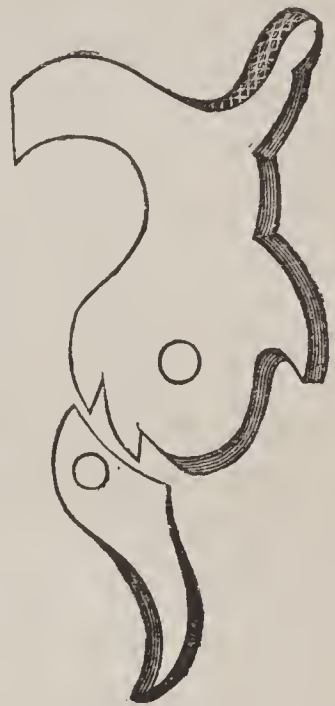

FIGURE 47.
*The Central Lock.*—There is a grade of guns made with locks enclosed in the breech, or a continuation of the breech, in the same manner as common revolvers and other pistol locks are made. A view of this lock is given in Fig. 47. The principle is